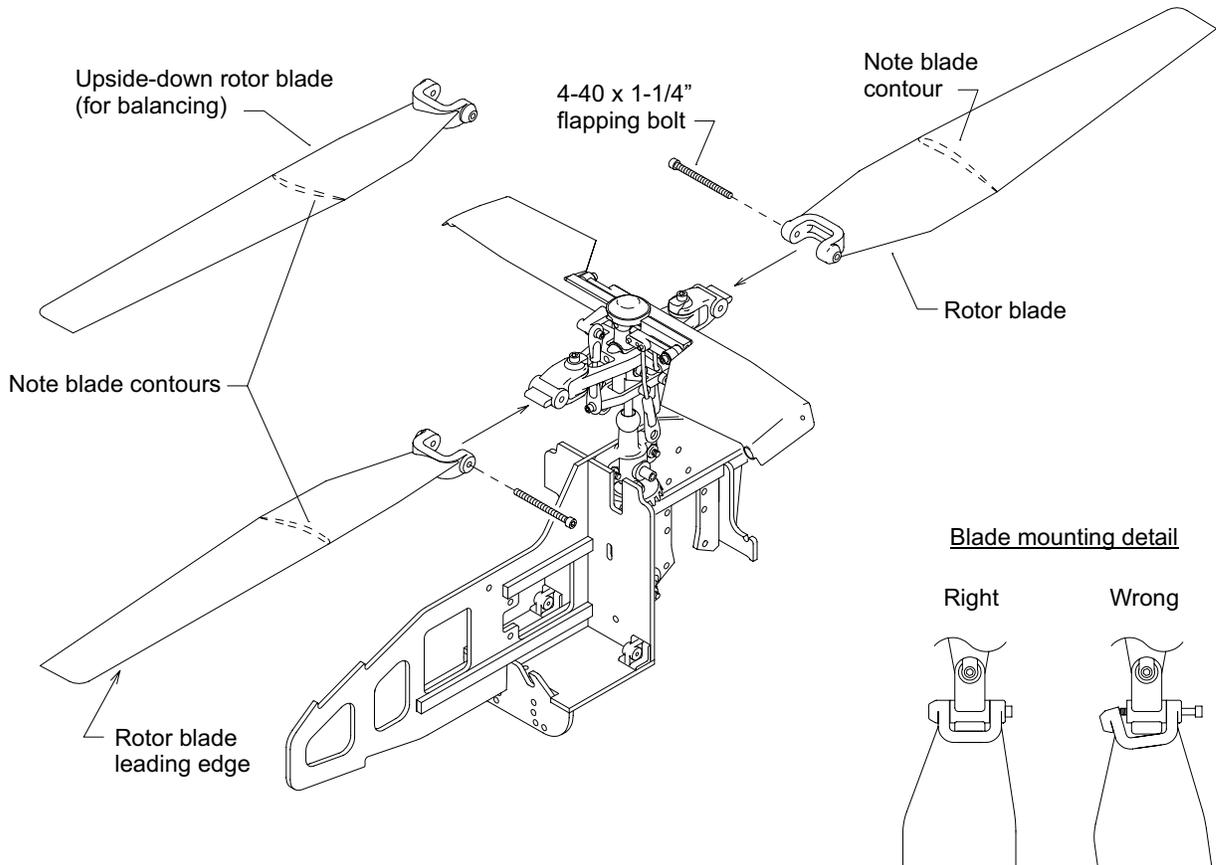

**Figure 7-11.**
- ❑ 23. To balance the *Subrotor* stabilizer, support the crutch on two books as in Fig. 7-11 so that the main rotor assembly overhangs the edge of your work surface and can rotate without hitting anything. Add another book on top of the crutch to hold it down. Wrap a piece of masking tape around the two mixing arm pushrods to keep them from flopping around. The heavy blade of the *Subrotor* stabilizer will swing downward.
- ❑ 24. Cut out a 1-1/2" x 2" (38mm x 51mm) patch of black stick-on plastic trim material, and wrap it lightly around the leading edge of the high (light) blade as shown in Fig. 7-11. Snip off the ends of the patch until the *Subrotor* stabilizer sits horizontally. This means that both blades are the same weight. Tap the tip of one blade and wait until it stops swinging to check that it is actually balanced. When balanced, press the patch firmly in place.